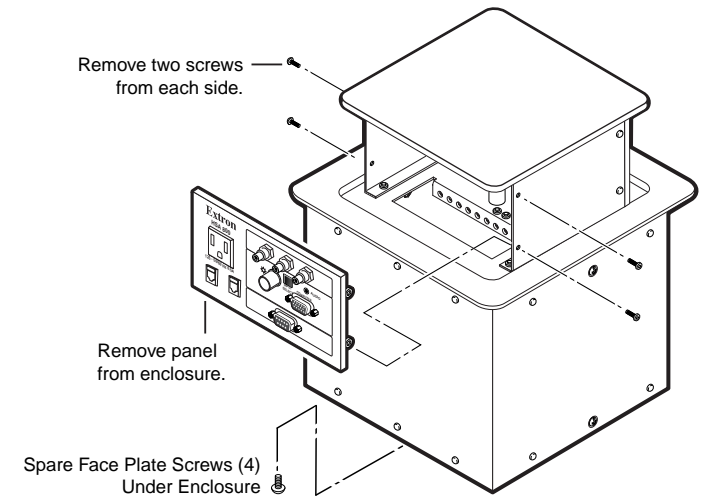

Figure 2-3 — Removing the connector/AAP panel
- On all AAP panels, remove the four screws on the right and left sides of the AAP panel (figure 2-3). Retain the screws. Lift the panels away from the enclosure as far as the connected cables allow and then allow the panels to dangle, supported by their connected cables.
NOTE Figure 2-3 shows an HSA 802. For the purposes of this procedure, the HSA 800 and HSA 822 are physically similar.